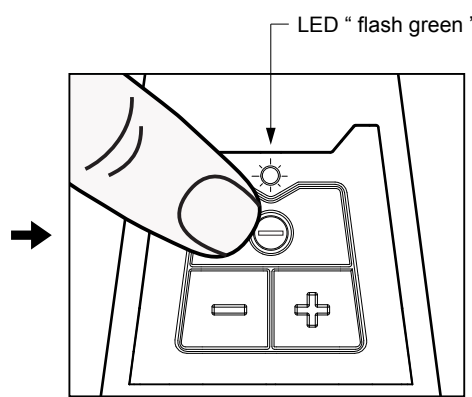

figure 2
2. Press the power on/off button "Θ" on the button plate to switch on the sander. The LED indicator shows "flash green" color after sander being switched on. - see figure 2.